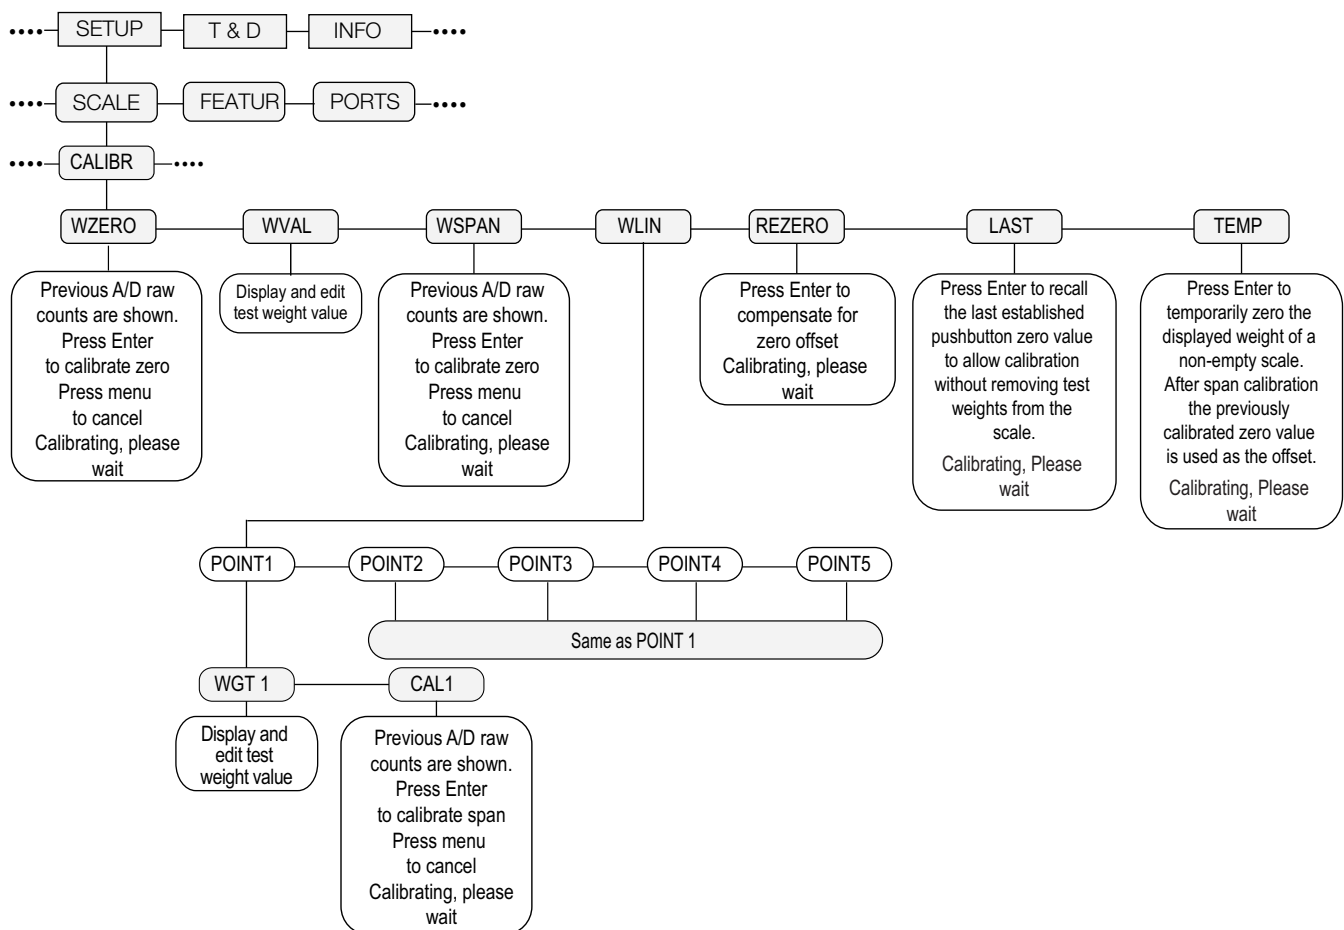

Figure 4-1. Calibration (CALIBR) Menu
1. Put the indicator in configuration mode using the setup switch on the back of the unit, see Figure 3-1 on page 44, (or use  if audit trail is enabled), and navigate to CALIBR, see Figure 4-1 on page 69.